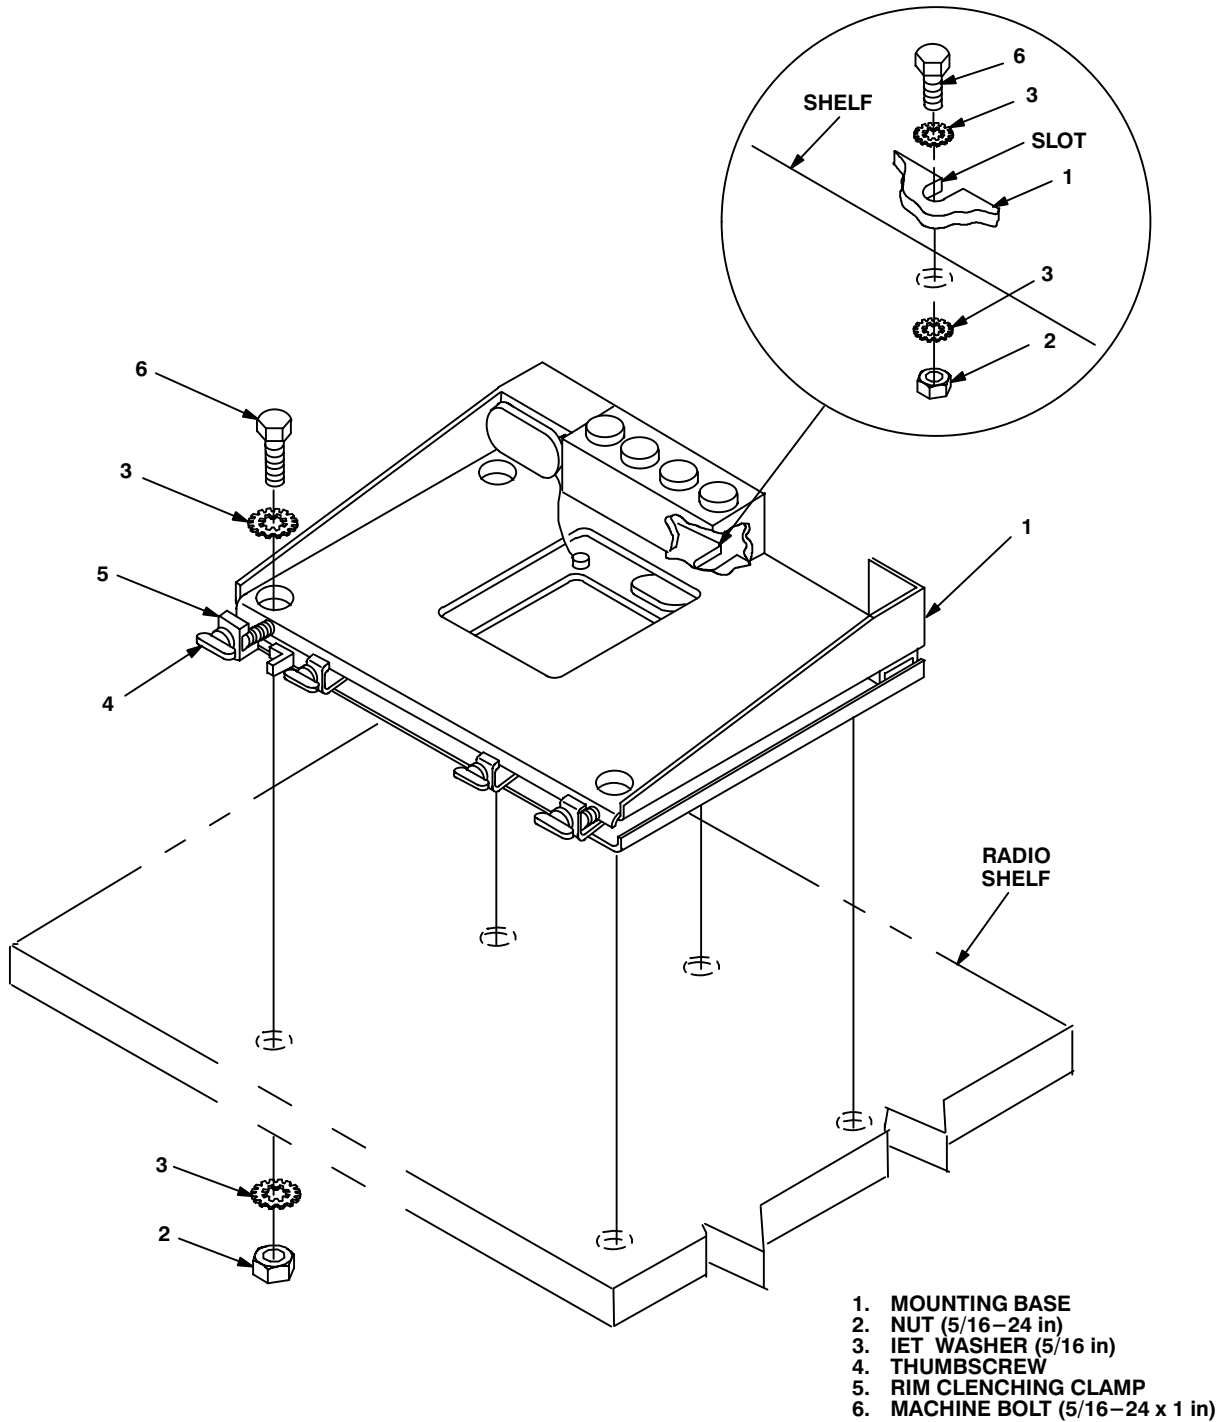

Figure 5-5. Mounting Base Installation: Roadside Radio Shelf
5.2 Installation of Mounting Bases, Electrical Equipment MT-6352/VRC (mounting base). Remove and retain attaching bag of 5/16 in mounting hardware for installation. To insure good electrical grounding, any rust, corrosion or paint around mounting holes in shelf should be removed before installing the mounting base(s). See figure 5-5 to perform the following steps.